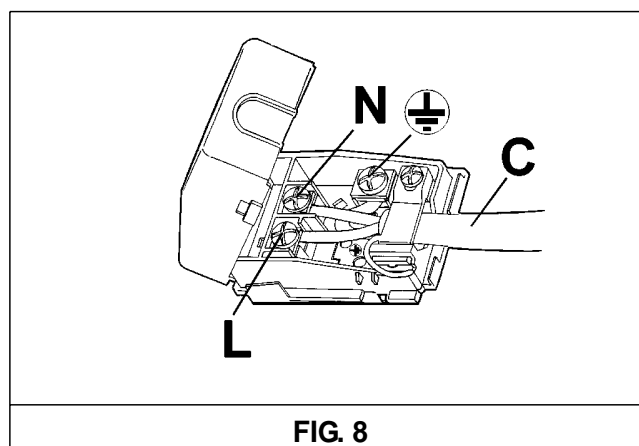

FIG. 8
- If a power cord is not supplied with the appliance, connect a cable with a suitable section to the terminal board (see table in paragraph 6) keeping the earth wire longer than the lead wires, following the diagram in fig. 8.
- Apply to power cable "C", if not provided, a standard plug suitable for the load indicated on the information label. Connect the wires as in the diagram in fig. 8 taking care to observe the responses listed below:
To replace components located inside the fryer the resistance should be lifted up and secured in the vertical position. Take out the oil kettle and loosen the four screws that are under it (see fig. 8). The work surface can now be detached from the worktop giving access to all internal components.